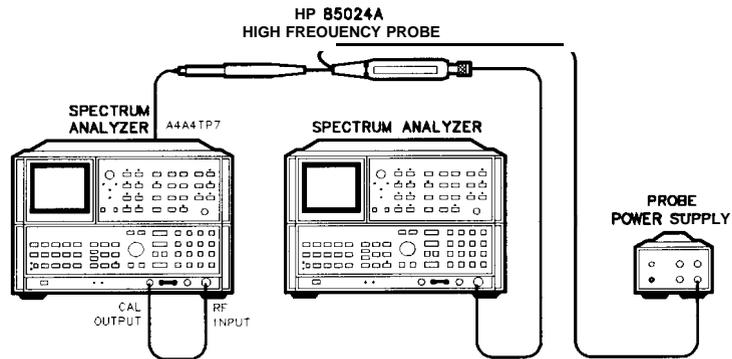

Figure 3-50. Down/Up Converter Adjustments Setup
1. Position Instrument upright as shown in Figure 3-50 and remove top cover.
4. Connect the second spectrum analyzer to A4A4TP7 using and active probe. See Figure 3-50 for test setup.